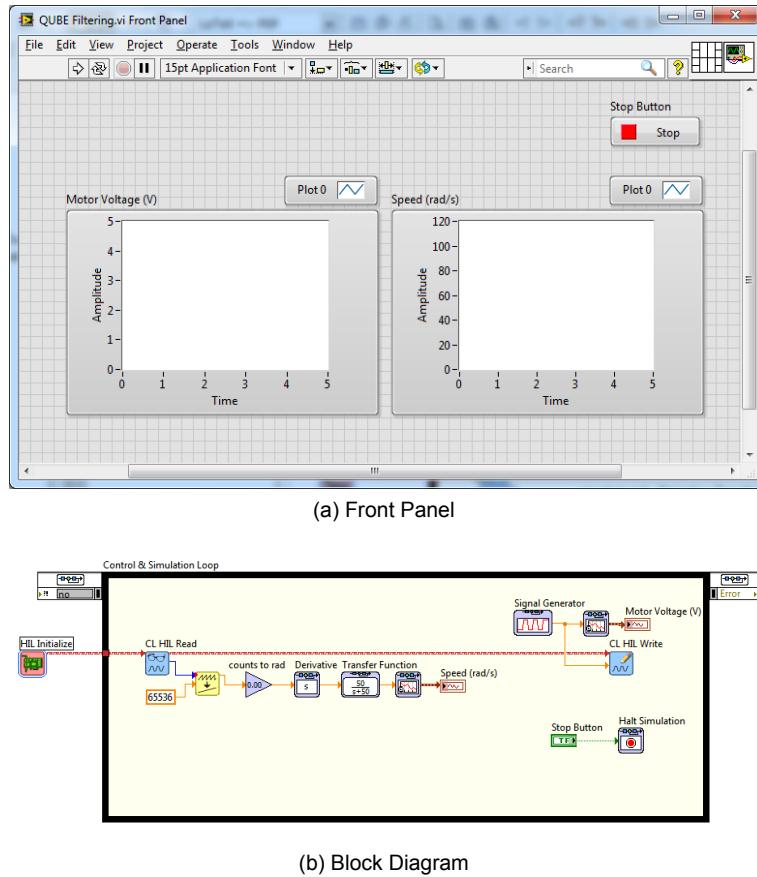

Figure 2.1: Measuring speed using the encoder
Based on the model developed in Section 1, the goal is to design a VI that measures the servo velocity using the encoder as shown in Figure 2.1.
2. Build the VI shown in Figure 2.1 but, for now, do not include the Transfer Fcn block (will be added later).
- **Inverse Modulus:** Since the QUBE-Servo DAQ has 16-bit counters, the valid count range is $2^{16} = 65536$. To eliminate the discontinuous jump that would occur when the encoder reaches the limits of this range, add the Inverse Modulus block from the Rapid Control Prototyping | Utilities category into the VI, as shown in Figure 2.1. Connect a constant of 65536 to the *Modulus* terminal.
6. One way to remove some of the high-frequency components is adding a low-pass filter (LPF) to the derivative output. From the *Control Design & Simulation | Simulation | Continuous* palette, add a *Transfer Fcn* block after the derivative output and connect LPF to the scope. Set the *Transfer Fcn* block to $50/(s + 50)$, as illustrated in Figure 2.1.